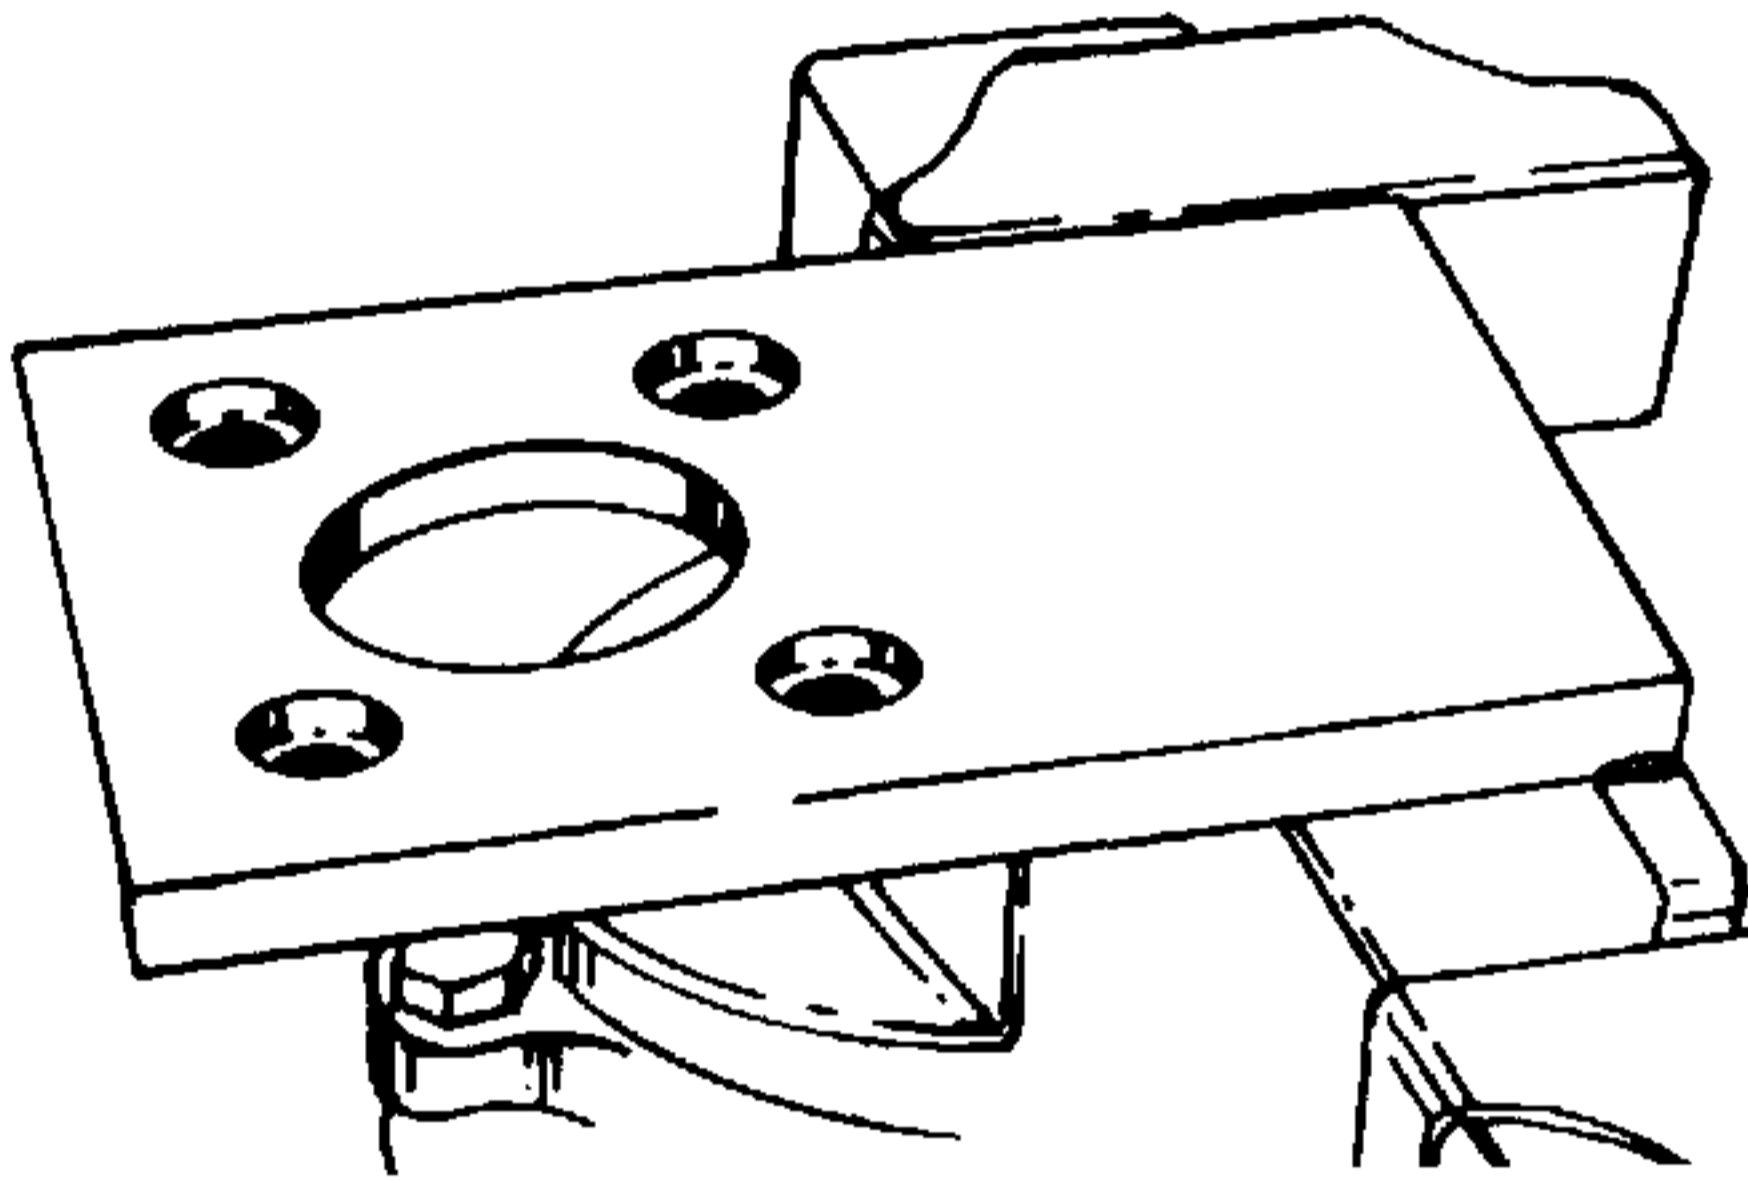
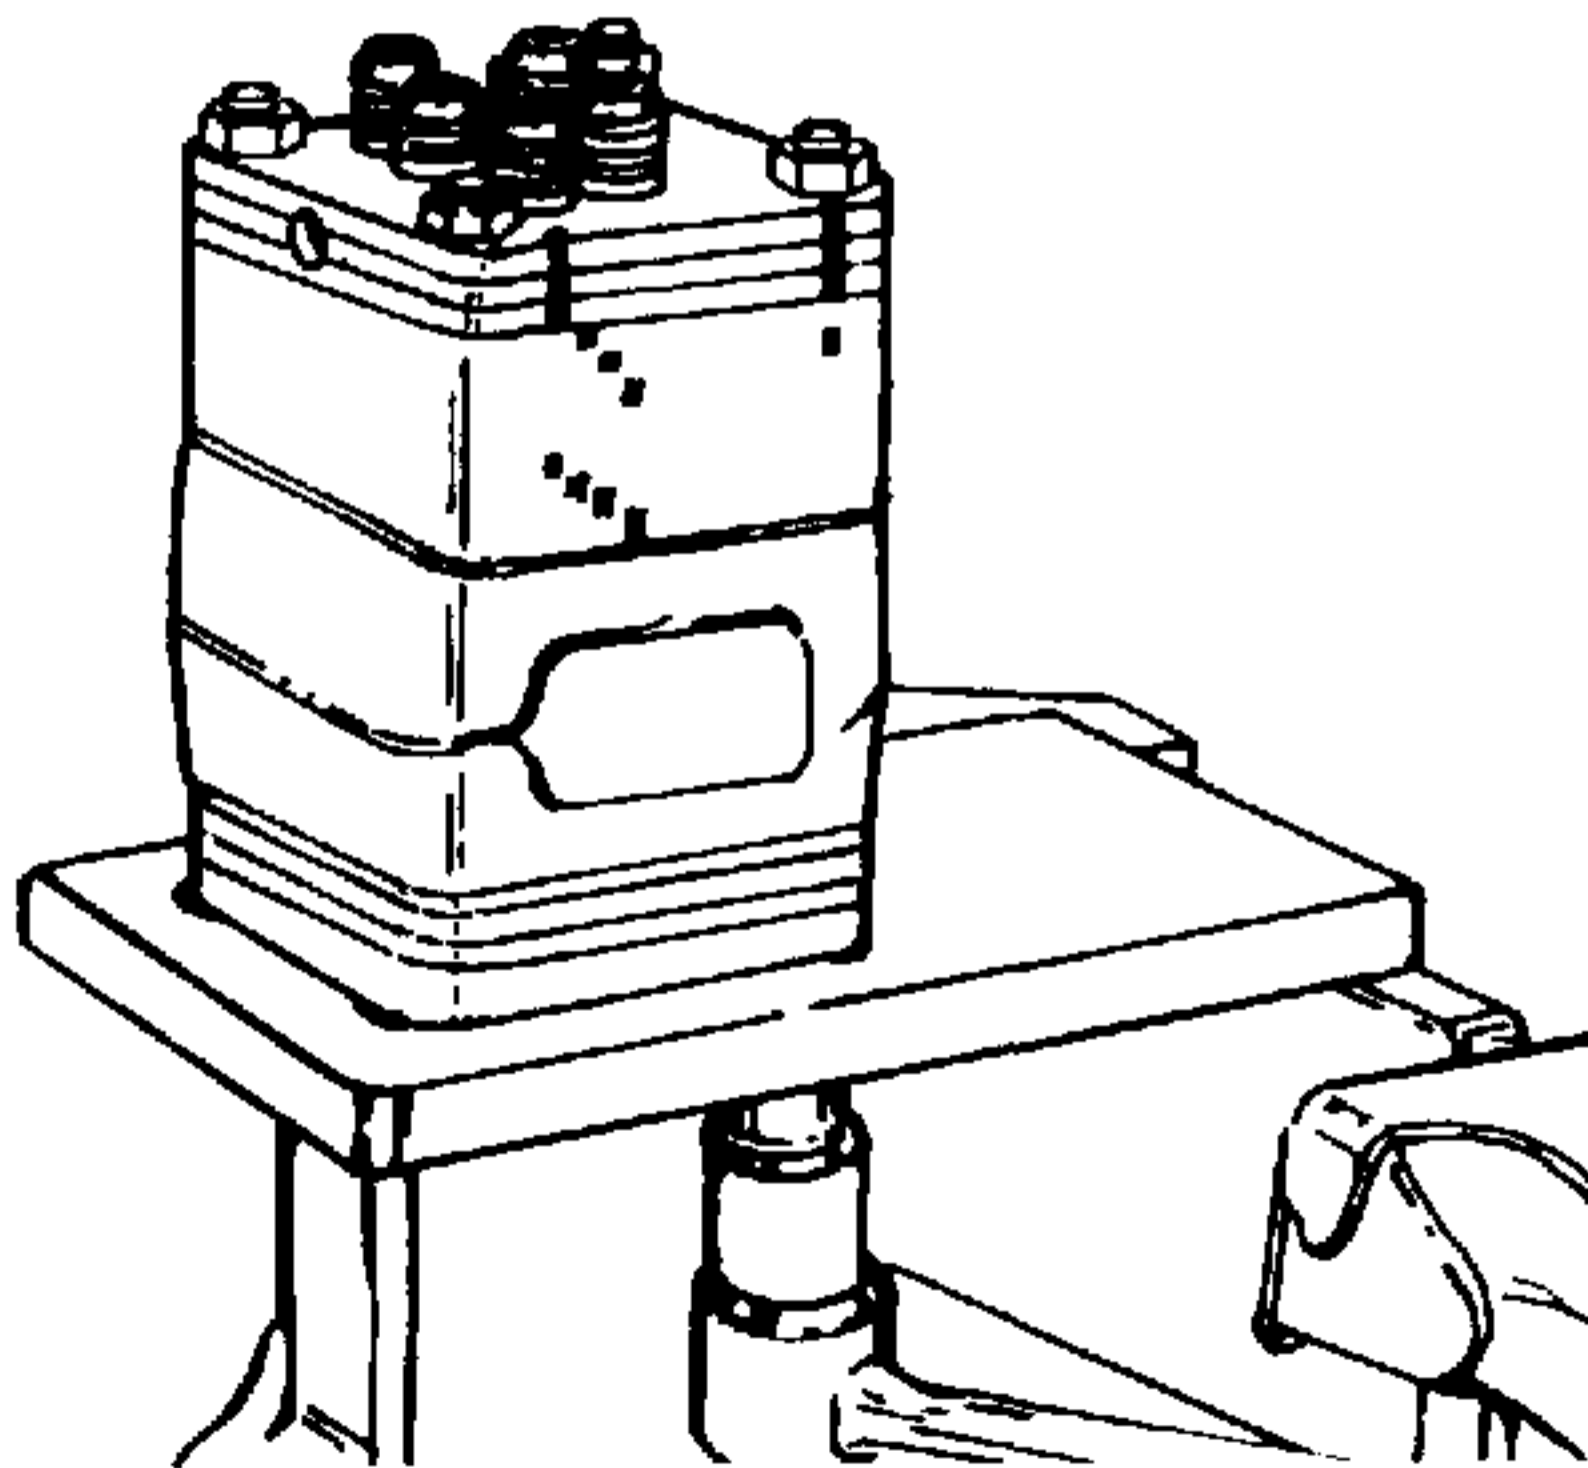

Figure 4-6. Placing Unit In Service Fixture.
Figure 4-7. Attaching Unit to Fixture.
1. To avoid distorting or damaging the unit, do not clamp it directly into a vise. Clamp a service assembly fixture, described in Figure 4-5, securely in a vise, see Figure 4-6, and place the unit, input shaft/wheel tube first, into the service assembly fixture. Attach the unit to the fixture with four 5/16-24 UNF nuts. See Figure 4-7.